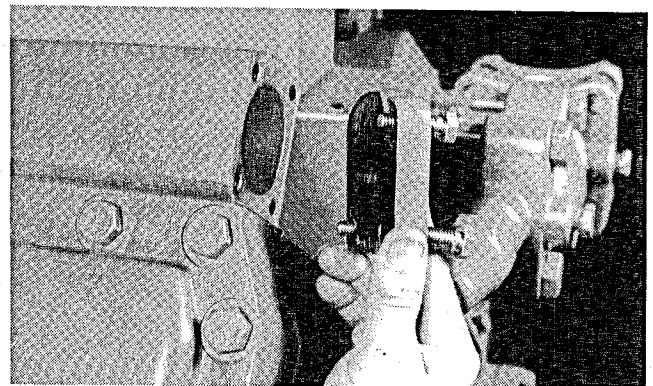
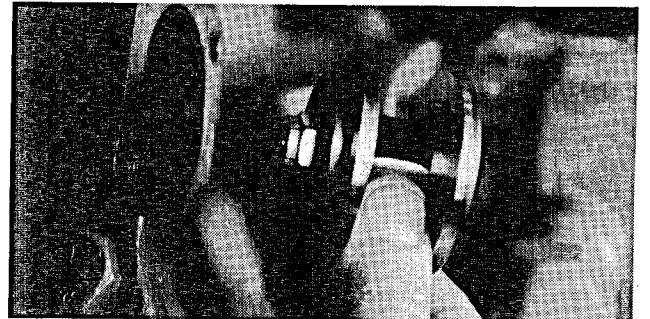

Figure 14
Figure 15
3. Remove the check valve cover plate (Figure 14) and pull the check valve and gasket assembly out of the cylinder head (Figure 15).
Figure 15 shows the check valve for design sequences A-F. Design sequences "G" and later used a spring loaded check valve as shown in figure 12 b.